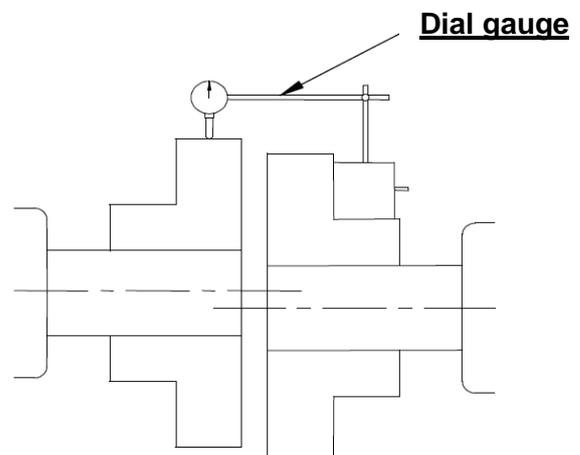

Figure 7.3: Measurement with a dial gauge
Alternatively, the radial misalignment can be measured with the help of a dial gauge. The dial gauge holder is mounted on a hub (item 1). Afterwards, place the volumetric flask on the processed outer diameter of the second hub (item 2) (see figure 7.3). With couplings REK...DHO and REK...DGZ, turn the hub one revolution and read off the full deflection of the dial gauge. The radial misalignment amounts to half the full deflection.